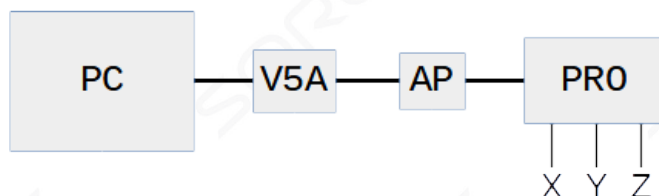

Fig. 7: Signal chain from PC, Eding V5A, adapter board and PRO control
- The adapter board shown in Figure 6 must be inserted between the Eding V5A and the MIDI control. Figure 7 shows the complete signal chain.